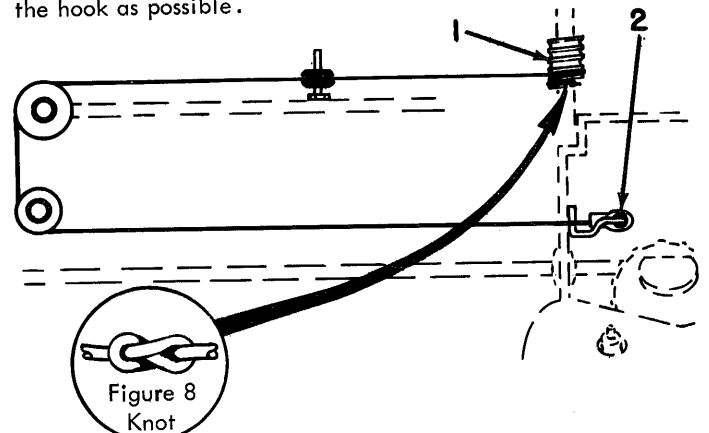

Figure 62. Carrier Return Cord Replacement
1. With the carrier to the extreme right, feed the carrier return cord around the pulleys and connect to cord drum (#1, Figure 62).
2. Connect carrier return cord to carrier using long nose pliers and spring hook (#2, Figure 62).